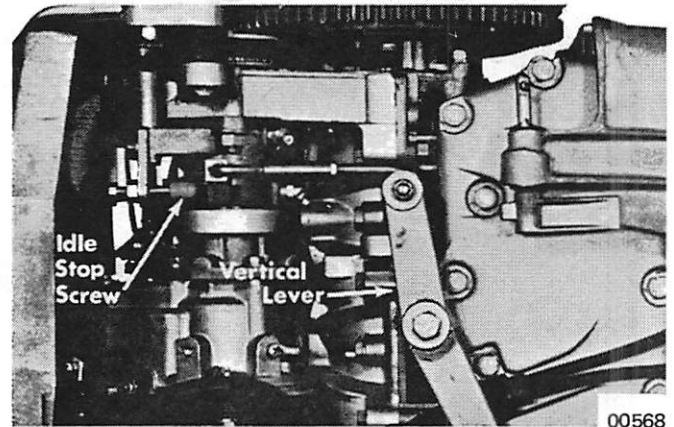

Figure 10. Vertical Lever and Idle Stop Screw
3. Idle engine and adjust "Idle Stop" screw on stop bracket (Figure 10) so that engine idles at 550 to 600 RPM in forward gear.